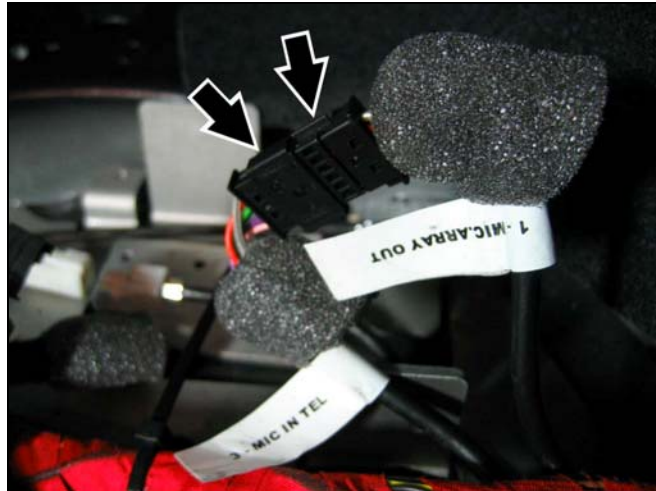

Figure 26
2. Connect the 6-pin female connector labeled "1 - MIC.ARRAY OUT" to the 6-pin male connector labeled "3 - MIC IN TEL" (Arrows, Figure 26).